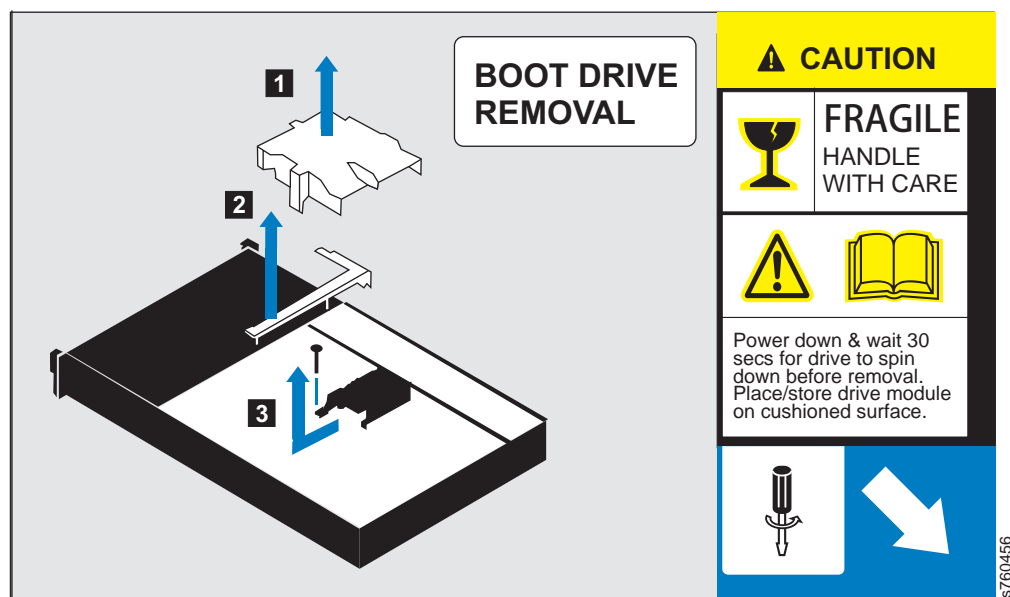

Figure 44. Boot cage caution label
5. Refer to Figure 44. You can identify the boot drive cage by the Boot Drive Removal caution label. The label shows the plastic covers **1** the air baffle and the L-shaped cover **2**. Remove both plastic covers.